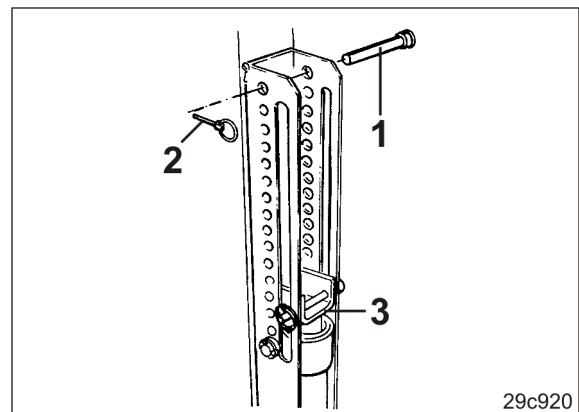

Fig. 181
3. Insert the bolt (Fig. 181/1) above the stop (Fig. 181/3) into a hole in the group of holes and secure it with a linch pin (Fig. 181/2).